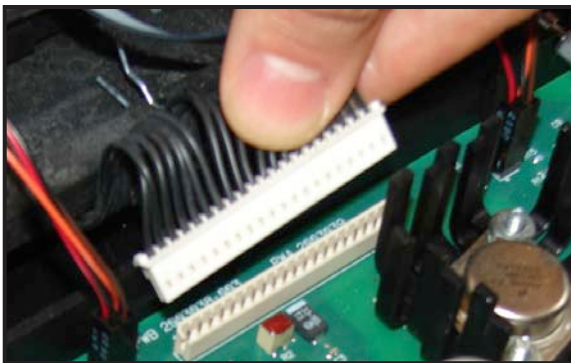

Figure 6-46
5. Disconnect recorder print head cable from the J3 connector on the recorder board (See Figure 6-46).
2. Disconnect recorder print head cable from the J3 connector on the recorder board (See Figure 6-46).